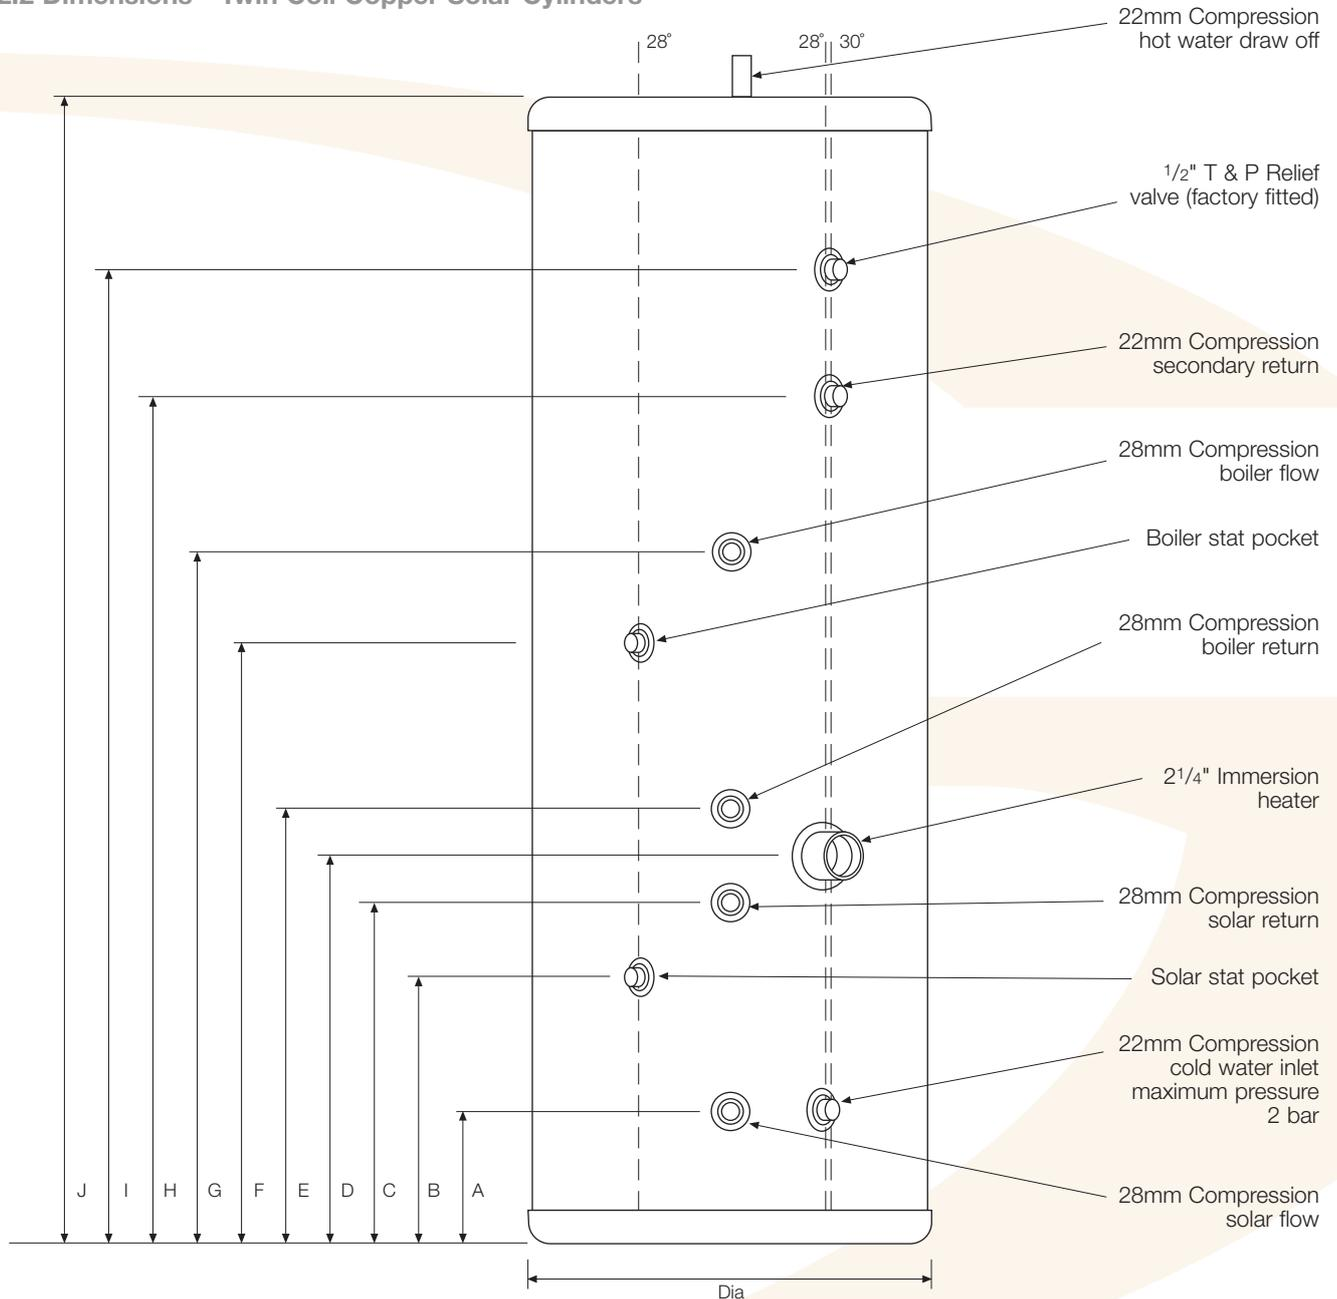

Figure 2-1: Twin coil copper solar cylinder dimensions
2. Locate the dual thermostat in the pocket (refer to either Figure 2-1 or 2-2, as appropriate, for location) and secure using the retaining screws on the thermostat housing.